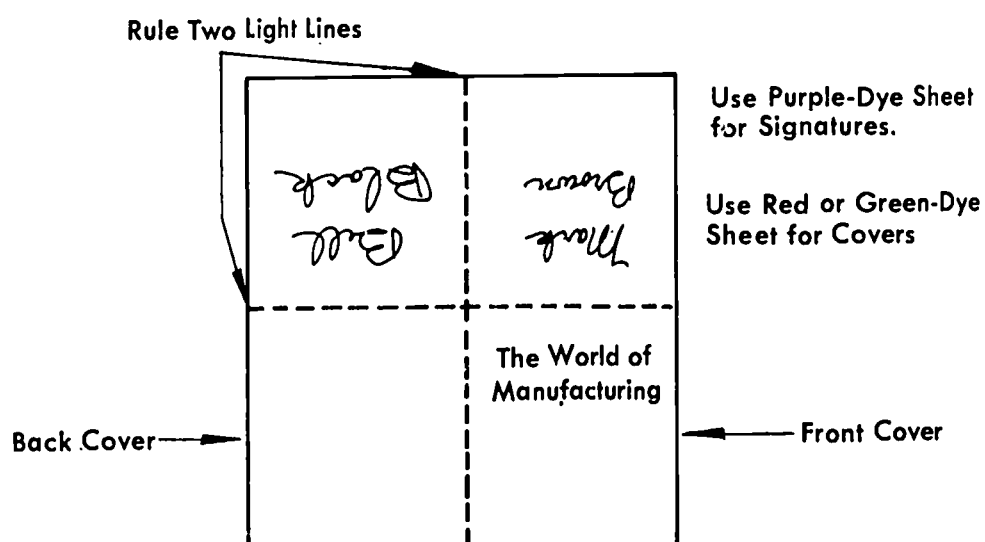

Fig. 140-1. Book Cover Master
- c. With the cushion sheet in place, lightly rule two lines to divide the master into fourths. See Fig. 140-1.
2. Have two students sign the paper master, as in Fig. 140-1.